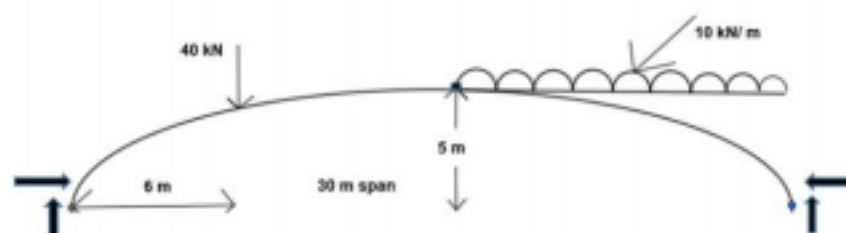

Fig.11
- a) A three hinged parabolic arch of span 30 m and central rise of 5 m. It is subjected to a concentrated load of 40 kN at 6 m span. Calculate the normal thrust, shear force and bending moment at 6 m from the left support. See fig.11.